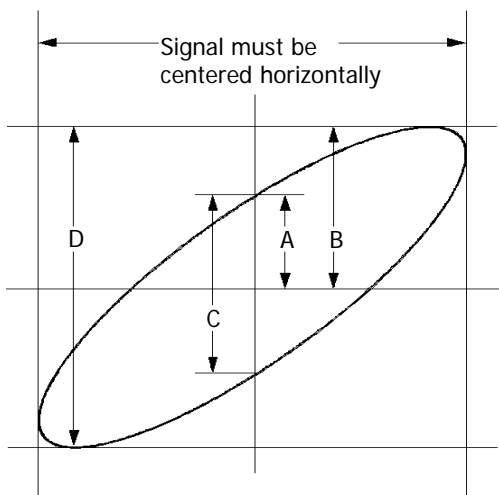

Figure 4-1 Measurement Schematic Diagram of Phase Deviation
4. Observe the measurement result shown in the figure above. According to the measurement schematic diagram of the phase deviation (as shown in Figure 4-1),  $A/B(C/D)=1$ . Thus, the phase deviation angle of the two channel input signals is  $\theta=\pm\arcsin 1=90^\circ$ .